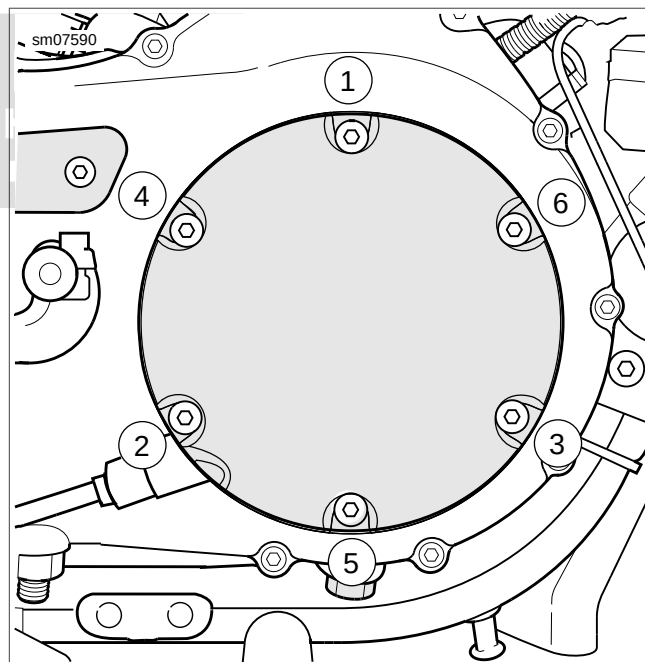

Figure 1-23. Clutch Inspection Cover Torque Sequence
- b. See Figure 1-23. Install cover and tighten screws in sequence to 90-120 in-lbs (10.3-13.6 Nm).